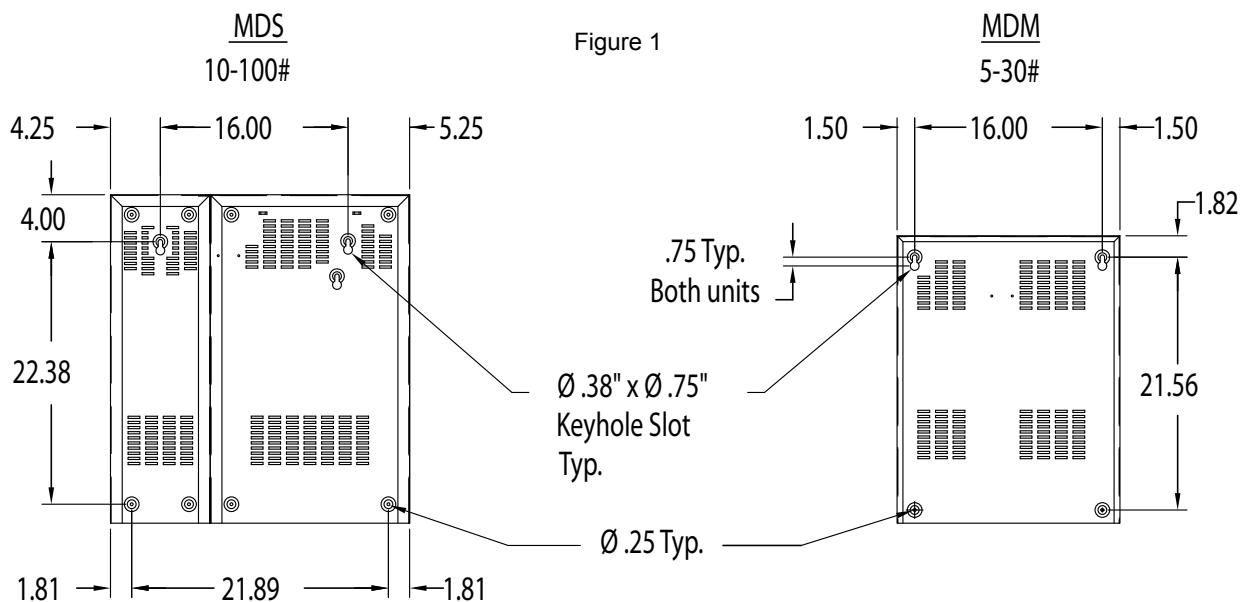

Figure 1
Four lag bolts, (2) 5/16" and (2) 1/4", are supplied with the MDS and MDM units which are designed to be secured to a wall. Install the top two lag bolts (5/16") according to the dimensions in Figure 1. Hang the unit on the wall, and then install the bottom two lag bolts (1/4") and secure all four bolts. Be sure the unit is level and mounted directly to the wall to wood studs at least 2" thick (or equivalent).